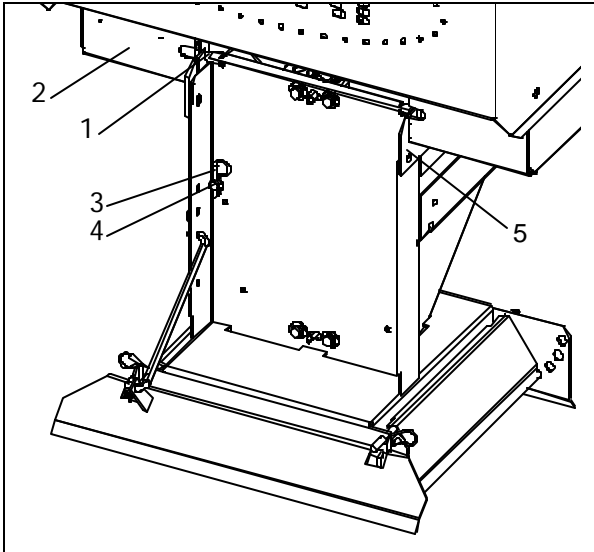

Figure 4 – Spinner Installation
Figure 4 – Slide upper pin (1) on each side of spinner assembly into slots on engine mount (2). If the unit has a single hydraulic drive, the sprocket will need to be moved approximately one inch from the top of the spinner shaft so it's in line with the other sprocket. Install spinner drive chain on sprockets and tension